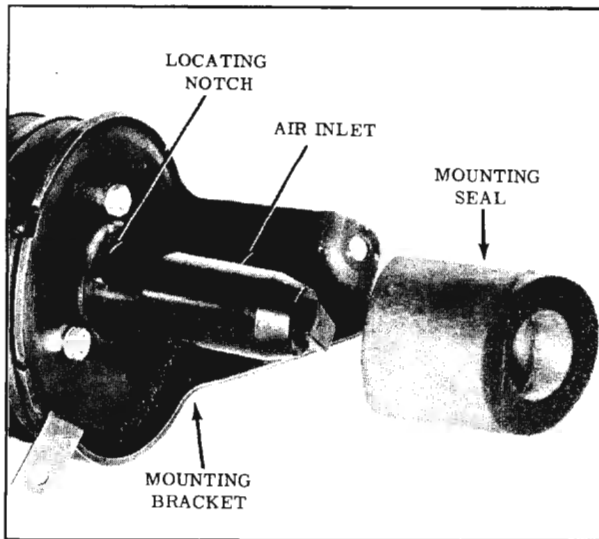

Fig. 7-121 Mounting Bracket Removal
2. Remove the three attaching nuts and lock washers and remove the mounting bracket assembly from the power unit. (Fig. 7-121)
washers and nuts. Align slot in mounting bracket with tab on bellows and torque the three nuts 7 to 9 ft. lbs. (Fig. 7-121)